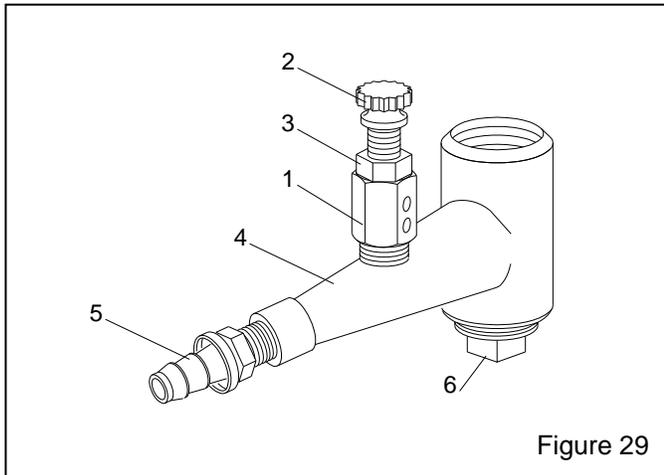

Figure 29
9.5 Metering valve assembly, Figure 29